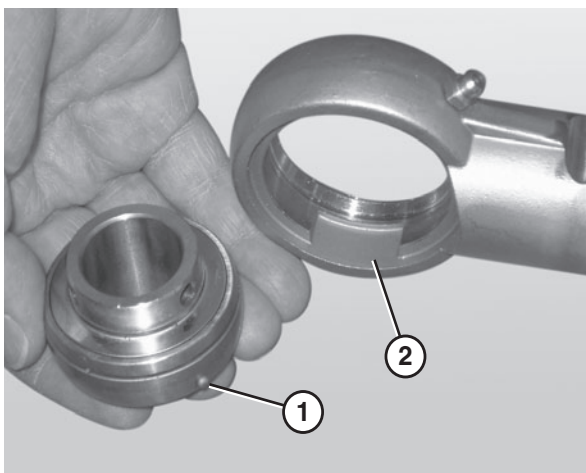

Figure 79
4. Remove the worn or damaged bearing (**Figure 79**).
When inserting the new bearing, make sure the anti-rotation notch (Figure 79, item 1) on the bearing lines up with the groove inside the housing (Figure 79, item 2).